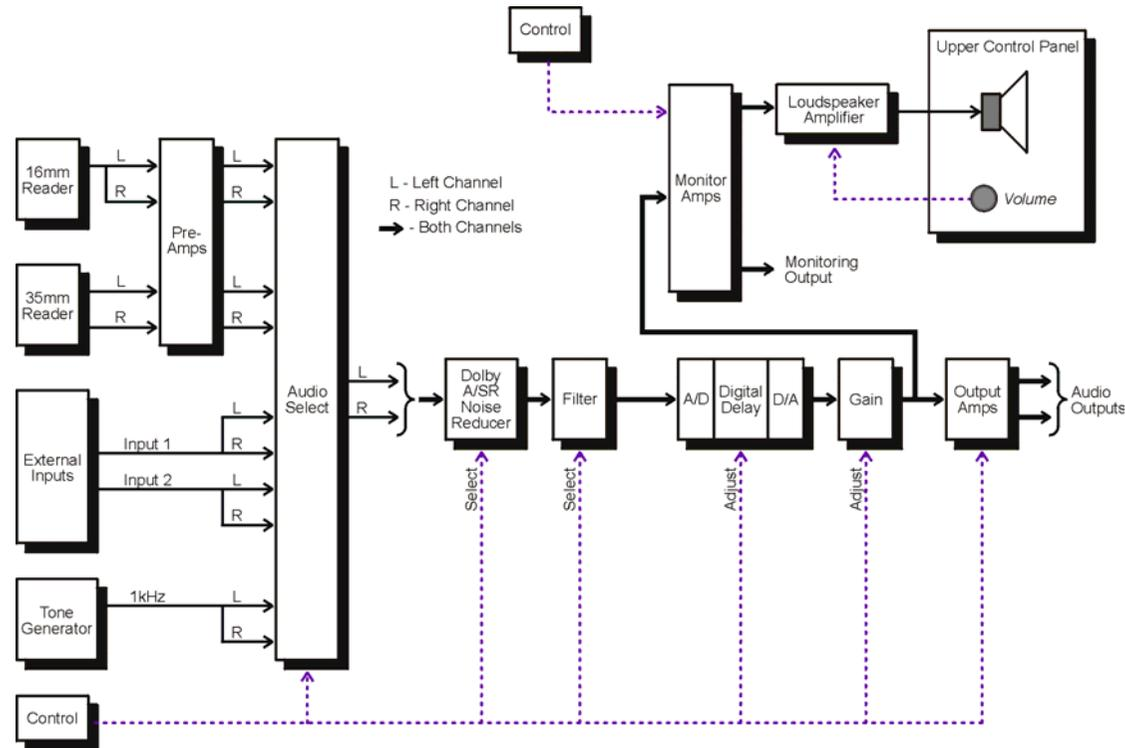

Figure 6 - Audio System Block Diagram
| Audio System Block Diagram | Figure 6 |
The Audio System picks up the film soundtrack and amplifies it to provide the audio output. See Figure 6. The system is able to introduce a delay of up to 1.3 seconds into the output and accommodates 16mm optical, and 35mm optical mono and stereo sound.
- Menu Hierarchy (Figure 6)